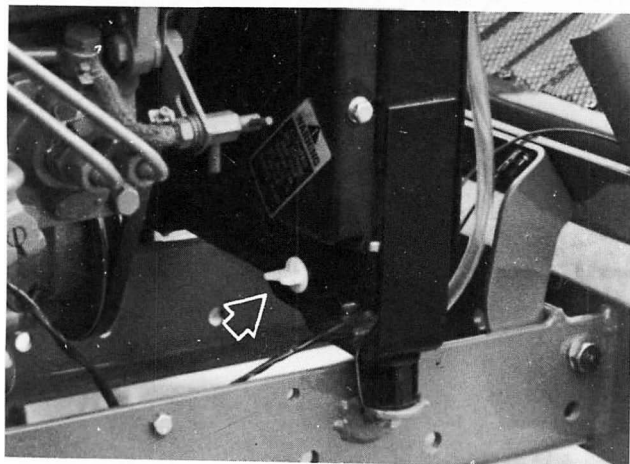
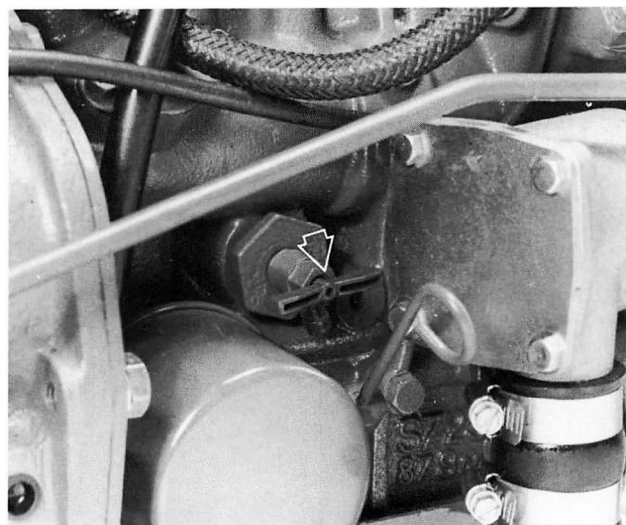

Figure 42 — Radiator Drain Valve
Figure 43 — Engine Block Drain Valve
1. Remove the radiator cap and open the drain valve at both the radiator and the engine block. The radiator drain valve is located on the bottom right side of the radiator (Figure 42). The engine block drain valve is located on the left side of the engine. See Figure 43.